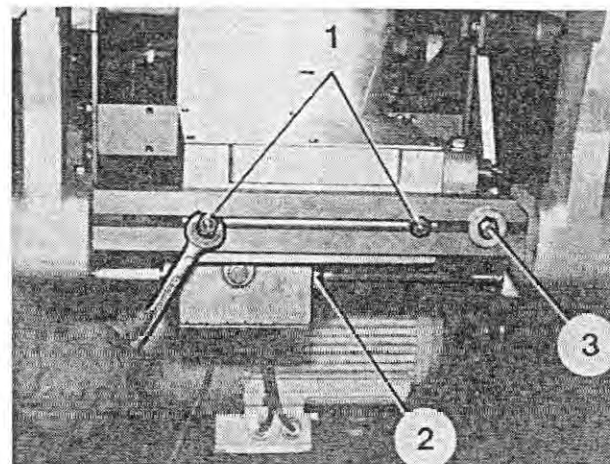

Fig. 230
1. To laterally adjust the ink printer, loosen the hex nuts (Figure 230/1), the locking screw (Figure 230/3) of the stop and the locking screw in the stop ring (Figure 230/2) of the drive. Adjust the printer appropriately. Press the stop against the ink printer and tighten the locking screws as well as the hex nuts.